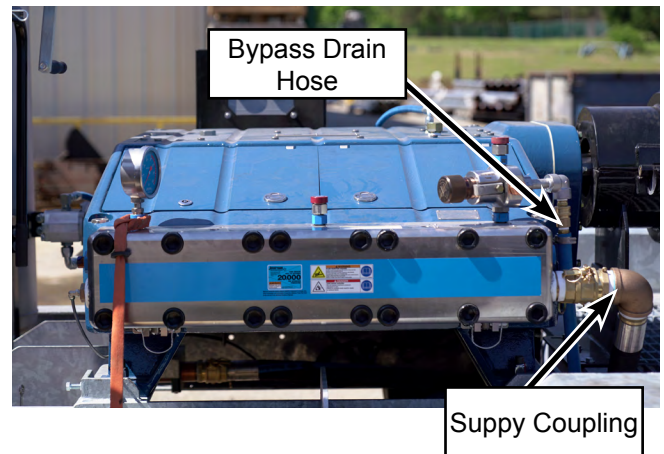

Figure 32: Disconnect Bypass Hose and Supply Coupling.
3. Disconnect the bypass drain hose and the supply coupling from the manifold (Figure 32).